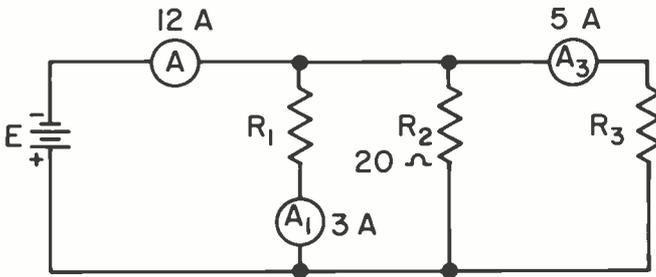

Fig. 12
4. The voltage of the battery in Fig. 12 is _____ volts.